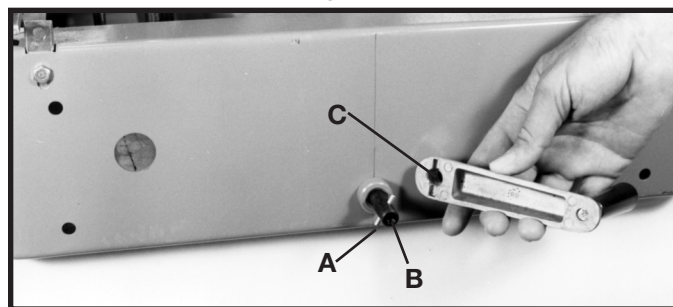

Fig. 5
1. Insert roll pin (A) Fig. 5, into the hole in elevating shaft (B).
2. Line up the slots in elevating handle (C) Fig. 5, with roll pin (A) and place handle on shaft (B) making certain the roll pin is engaged in the slots.